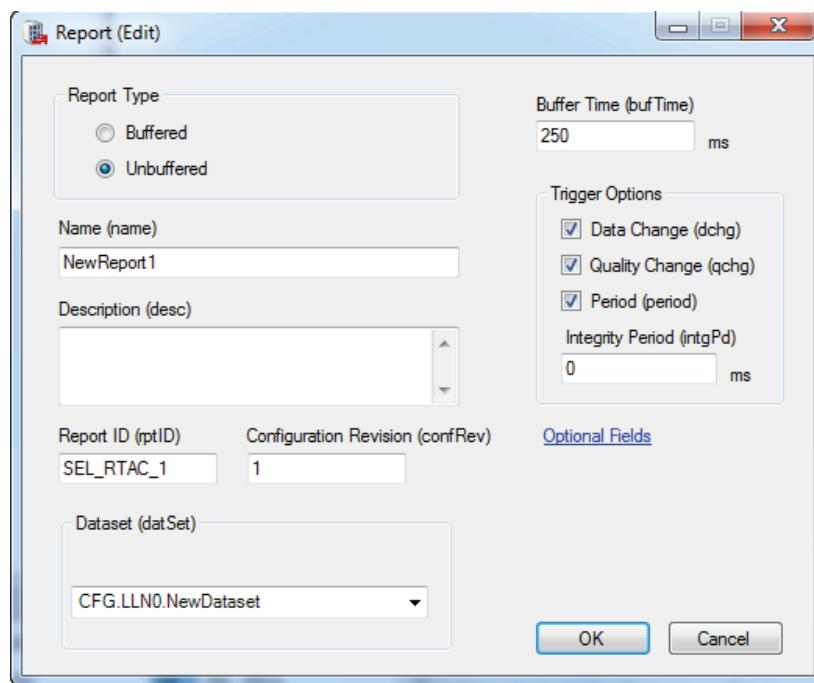

Figure 2.188 Configure Reports
Step 10. Click on **Reports** and configure as needed. Configuration includes specifying if the report is buffered or unbuffered, which dataset to use, and other configurations related to triggers and buffer times. See *Figure 2.188* for options.